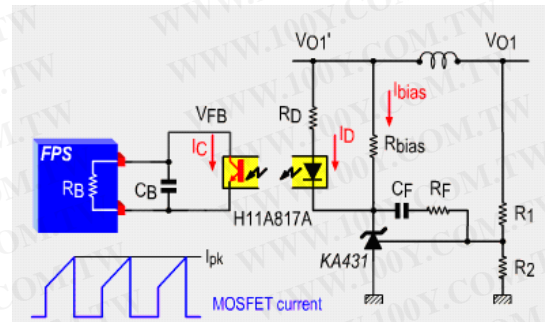

Figure 12. Typical Feedback Network of FPS
When FPS acts in Burst mode and the Burst operation is suspected to be a source of noise, this method may be helpful. If the frequency of Burst mode operation lies in the range of 2~4 kHz, adjusting feedback loop can shift the Burst operation frequency. In order to reduce the Burst operation frequency, increase a feedback gain capacitor (CF), opto-coupler supply resistor (RD) and feedback capacitor (CB) and decrease a feedback gain resistor (RF) as shown in Figure 12. Typical Feedback Network of FPS.